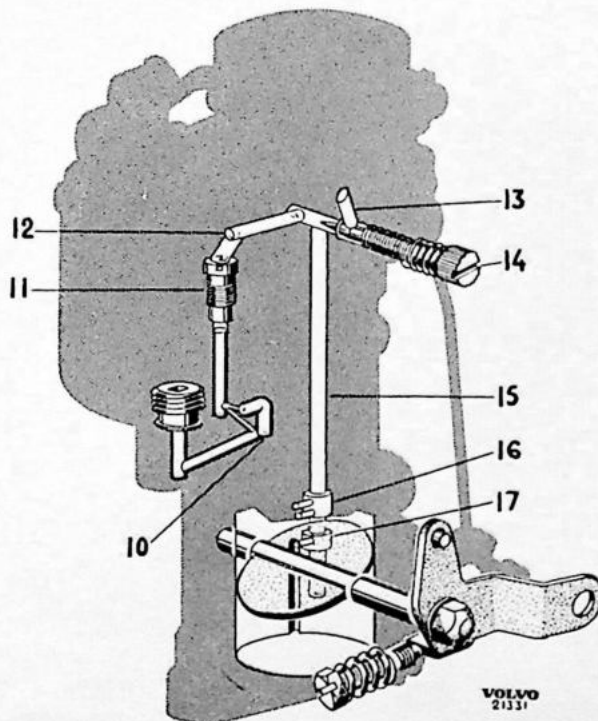

Fig. 18. Idle system.
The idle system is shown in Fig. 18. The strong vacuum produced in the carburetor throat below the nearly closed throttle valve causes a powerful suction through the idle passage (15). This passage communicates with the air passage (13) to the air horn by way of the idle air regulator screw (14), and with the fuel idle passage (10) via fuel passage (12) and idle jet (11). Because of the suction, fuel is drawn in through the idle